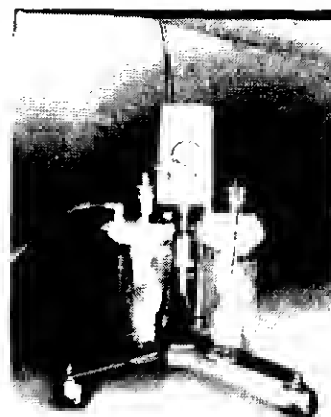
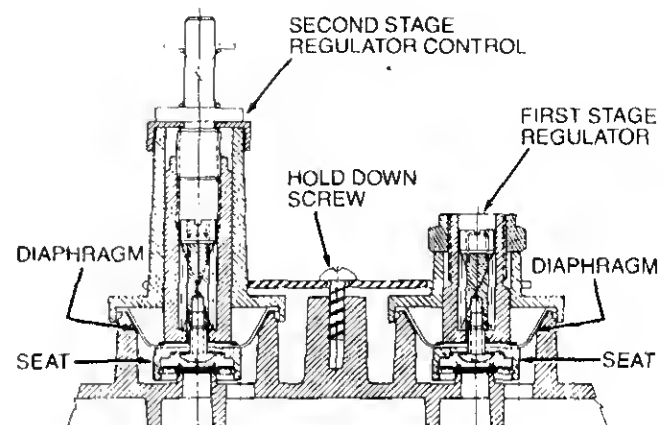

FIGURE 11
FIGURE 15
8.2.1 Remove the Surgical Vacutron, Cart, etc. from its shipping container. Assemble the Vacutron, Cart, hoses, etc. per enclosed instruction sheet (see Fig. 11).
8.2.1 Remove the Surgical Vacutron, Cart, etc. from its shipping container. Assemble the Vacutron, cart, hoses, etc. per enclosed instruction sheet (see FIG. 11).
The first stage regulator (Fig. 15) is factory set to 310 ± 10 mm Hg. It is not recommended that you attempt to change this setting. If you suspect improper function, remove the hold down screw (Fig. 15). Lift the regulator from its seat. Inspect for contamination. Clean or replace with new assembly. Assemble and test for function per section 5.0 or 7.0.
The second stage regulator (Fig. 15) adjusts the vacuum level to the patient in all modes except "FULL LINE." If contaminant enters the unit, remove the hold down screw (Fig. 15). Lift the regulator from its seat. Inspect for contamination. Clean or replace it with a new assembly. If its rubber diaphragm is defective, replace it with a new assembly. Assemble and test for function per section 5.0, 7.0 or 9.0.
10.7.2 If cleaning is necessary, both needle valves are removed in the same manner. Open cover (Fig. 11) and rotate the needle valve counterclockwise pulling out at same time (Fig. 15). This will remove the needle valve only, leaving the valve body in place. After needle valve has been removed, wipe the tip with isopropyl alcohol.